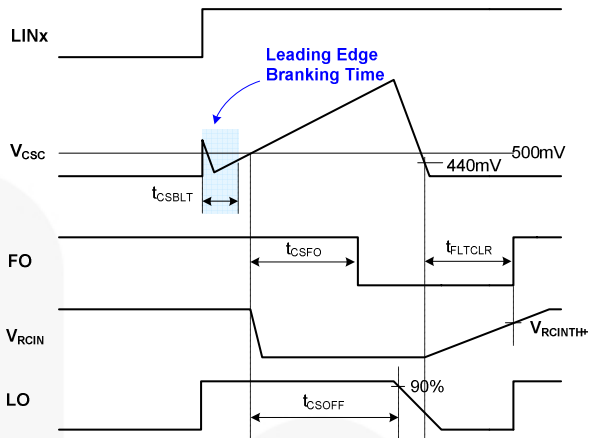

Figure 42. RCIN and Fault-Clear Waveform Definition
Figure 42 shows the waveform definitions of RCIN, FO and the low-side driver, which uses a soft turn-off method when an under-voltage condition of the low-side gate driver supply voltage (V_{DD}) or the current-sense pin (CS) recognizes a fault. Once a fault condition occurs, the FO pin is internally pulled to COM and all outputs (HO1,2,3 and LO1,2,3) of the gate driver are turned off. Low-side outputs decline linearly by the internal sink current source ($I_{SOFT}=40mA$) for soft turn-off, as shown in Figure 42.